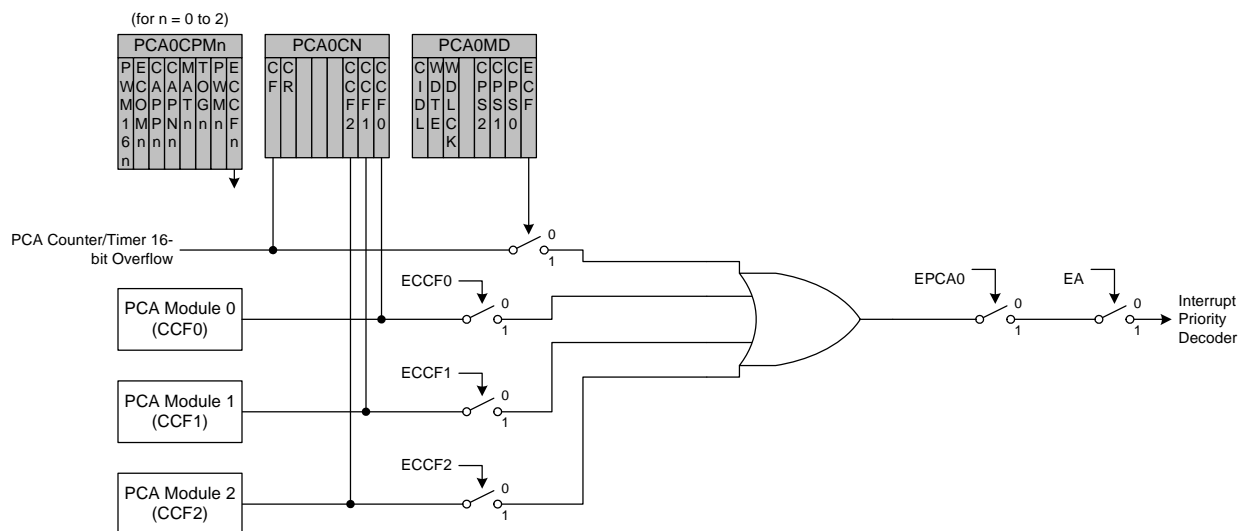

Figure 24.3. PCA Interrupt Block Diagram
Figure 24.3 shows a diagram of the PCA interrupt tree. There are four independent event flags that can be used to generate a PCA0 interrupt. They are: the main PCA counter overflow flag (CF), which is set upon a 16-bit overflow of the PCA0 counter and the individual flags for each PCA channel (CCF0, CCF1, and CCF2), which are set according to the operation mode of that module. These event flags are always set when the trigger condition occurs. Each of these flags can be individually selected to generate a PCA0 interrupt, using the corresponding interrupt enable flag (ECF for CF, and ECCFn for each CCFn). PCA0 interrupts must be globally enabled before any individual interrupt sources are recognized by the processor. PCA0 interrupts are globally enabled by setting the EA bit and the EPCA0 bit to logic 1.